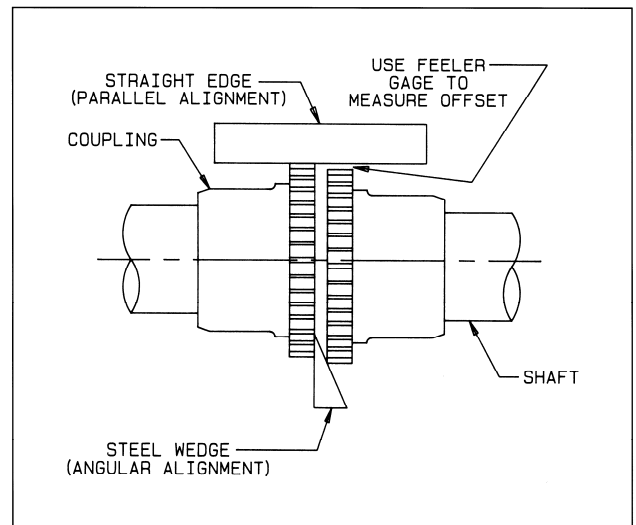

Figure 2
1. Align the coupling to within the manufacturer's limits for parallel and angular misalignment (see Figure 2). A dial indicator or laser can also be used for alignment where greater precision is desired. Adjustments should be made by moving the motor to change shaft angle, and by the use of foot shims to change motor shaft height. Do not move the fan shaft or bearing.